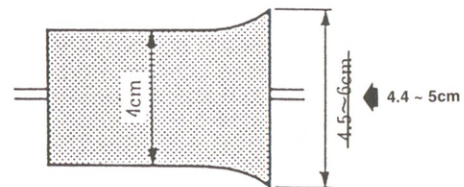

Fig. 7-22
- 3-2) Turn the K5 guide adjustmetn nut clockwise, and make the RF output waveform as illustrated in Fig. 7-22.